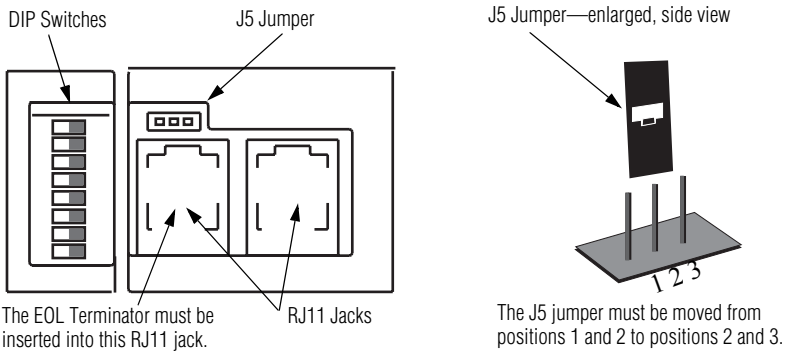

Figure 5: Location of DIP Switches and J5 Jumper
2. Locate the J5 jumper on the backside of the serial clock (See Figure 5: Location of DIP Switches and J5 Jumper).
3. Use your fingers or a needle-nose pliers to carefully remove the jumper from positions 1 and 2 (See Figure 5: Location of DIP Switches and J5 Jumper). Make sure not to drop the jumper because it could fall into the serial clock's case. Place the jumper into positions 2 and 3.
5. The EOL terminator must be inserted into the RJ11 port on the left, closest to the DIP switches (See Figure 5: Location of DIP Switches and J5 Jumper).